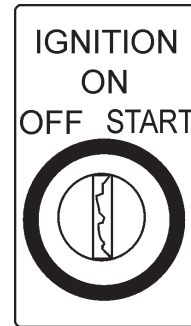

Figure 20. Ignition Switch
3. To start the engine, insert the key (Figure 20) into the ignition switch and turn the key to the ON position.